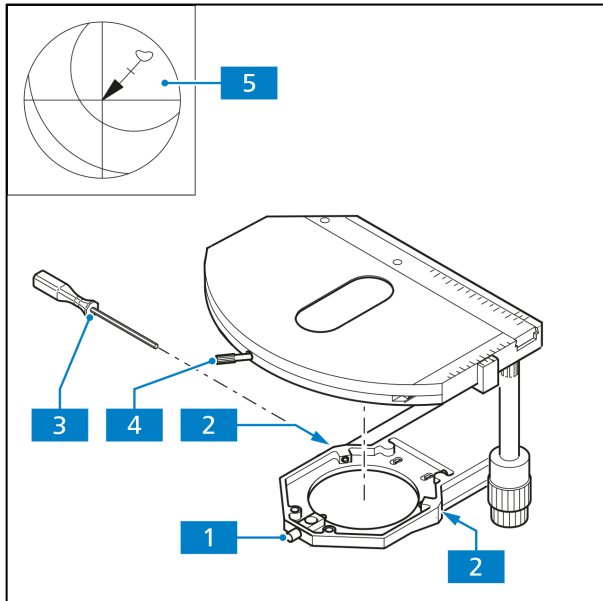

Fig. 3-13 Centering the rotatable mechanical stage
All stages are delivered pre-centered, i.e. when the stage is turned, the detail of the specimen in the focus remains in the center of the image. If the detail shifts out of the center when the stage is turned (Fig. 3-13/5), then it becomes necessary to re-center the stage.
- Loosen the clamping screws of the stage (Fig. 3-13/4) and the screw cap of the stage carriers (Fig. 3-13/1).
- Determine the maximal shift of the specimen (Fig. 3-13/5, arrow point) to the cross line in the eyepiece by turning the stage.
- Shift the specimen detail towards the center of the cross line by turning each the two centering screws on the stage carrier (Fig. 3-13/2) with an Allen wrench (AF 1.5) (Fig. 3-13/3) half the length of the arrow. Repeat the procedure if the specimen detail shifts out of the center again when turning the stage.
- After finishing the centering procedure tighten the screw caps (Fig. 3-13/1) again.